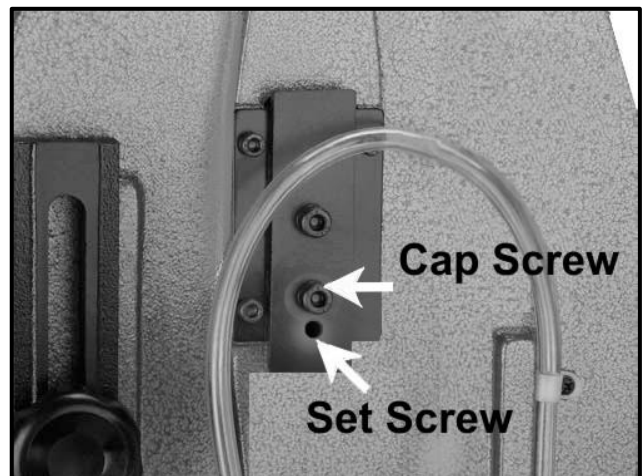

Figure-12 Blade tracking screws
4. Loosen the lower cap screw in the tilting mechanism to a point where it is loose but snug. See figure-12.
6. Adjust the set screw shown in figure-12 and tighten the lower cap screw.